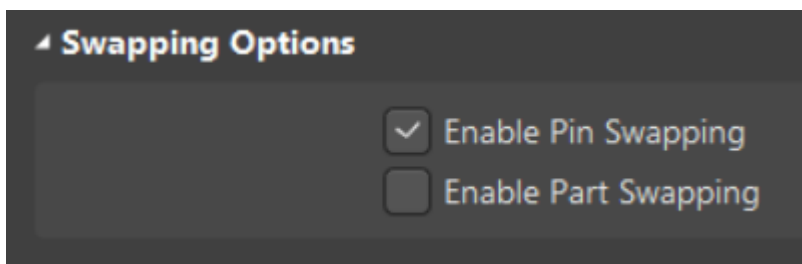

Figure 3. Component Properties U1
8. Look for the Swapping Options section and tick the **Enable Pin Swaps** checkbox as shown in Figure 3 below.